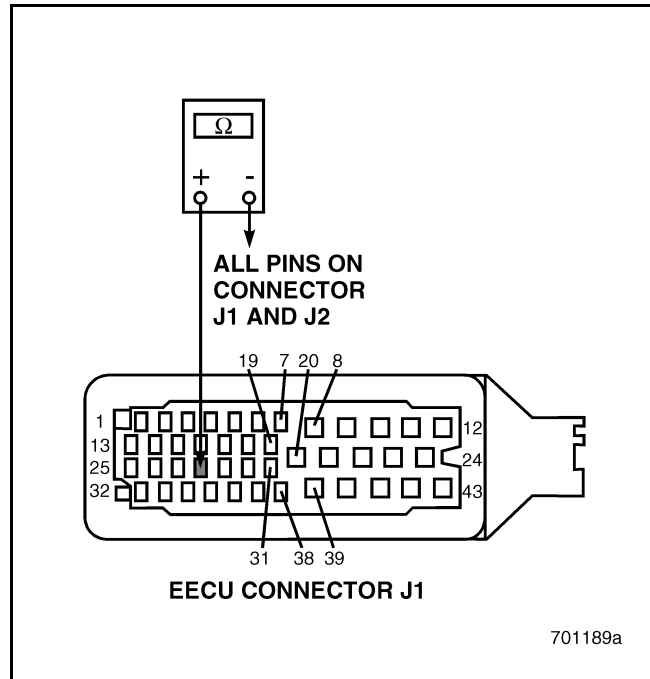

Figure 50
4. Check for continuity between EECU harness connector J1 pin 28 and all other pins on EECU connectors J1 and J2 (see Figure 50).